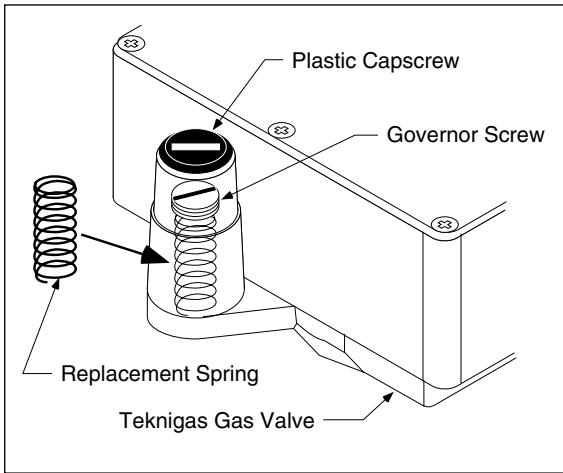

Figure 21 TEKNIGAS Valve Spring Replacement
- 10.3.3 This step is for the TEKNIGAS model valve only. Remove governor screw and spring; replace with spring included in kit and refit governor screw. See Figure 21 - Governor Spring Replacement.